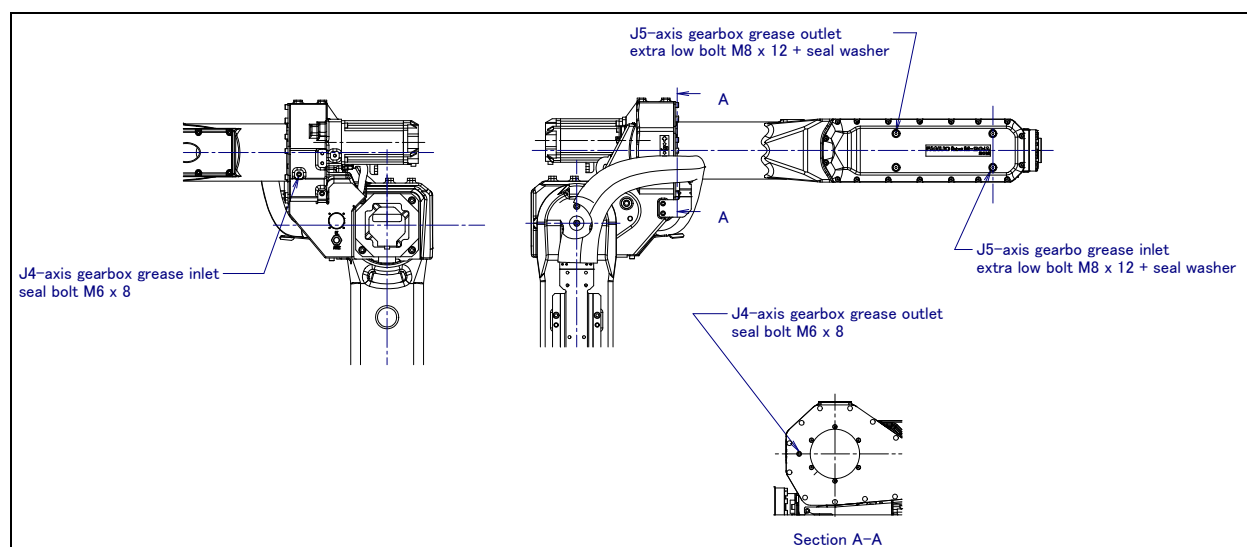

Fig. 8.3.3.2 Greasing point of J4/J5-axis gearbox
- 3 Remove the seal bolt. (Fig. 8.3.3.2)